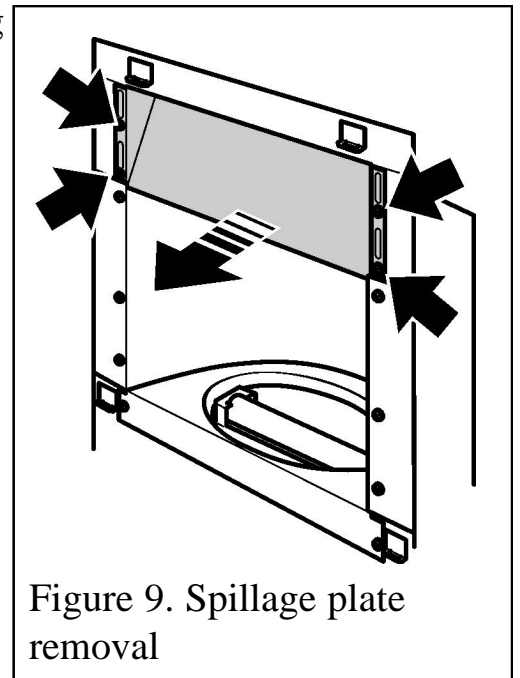

Figure 9. Spillage plate removal
1. Detach the spillage plate from the hotbox by removing the four screws (See figure 9).